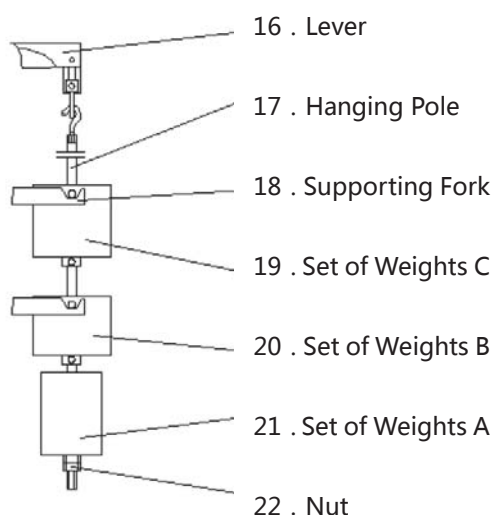

Fig 3
4.4 The Installation of the Weight Group (Fig.3)